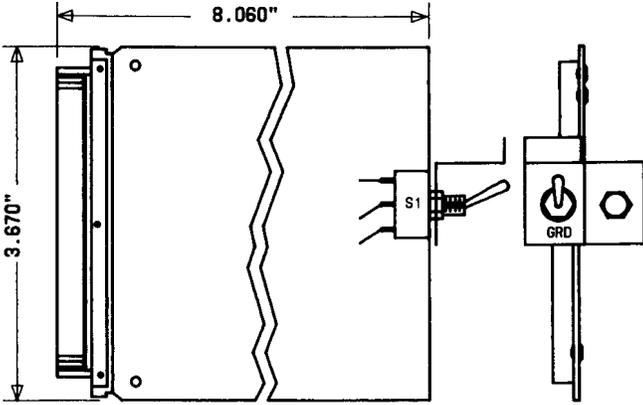

Fig. 6—814A Tester Tool
**2.14 814A:** The 814A tester tool (Fig. 6) is used on the 1A processor frame to perform the head alignment test on the KS-20571 recorder.